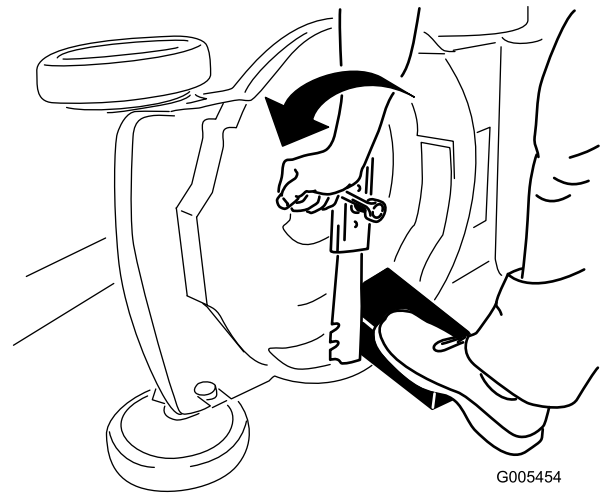

Figure 30
4. Remove the blade, saving all mounting hardware (Figure 30).
3. Use a block of wood to hold the blade steady (Figure 30).